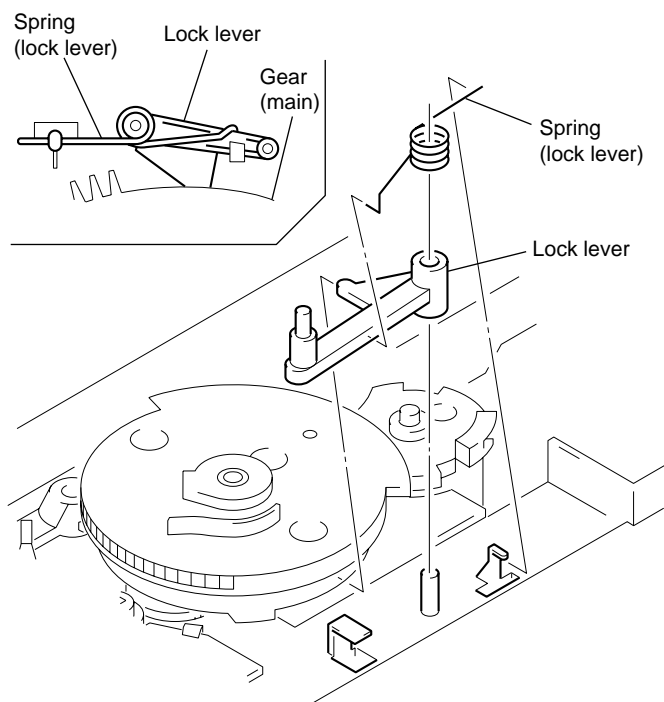

Fig. 5
- 6) Mount the lock lever (See Fig. 5.)
- 7) Mount the spring (lock lever). (See Fig. 5.)